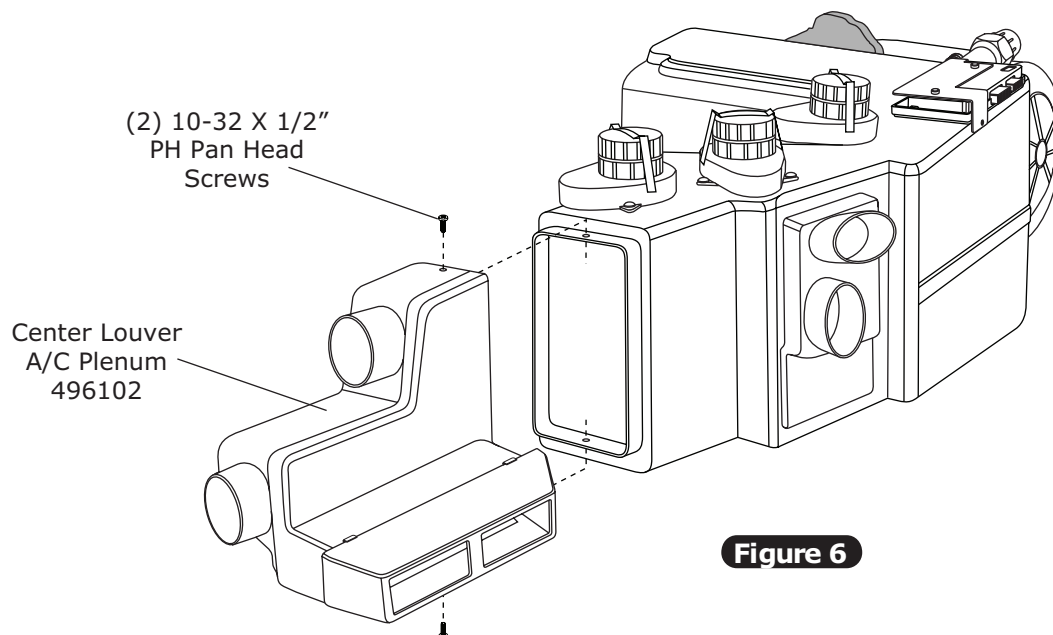

Figure 6
1. Install center louver A/C plenum ASM onto evaporator sub case as shown in Figure 6, below.